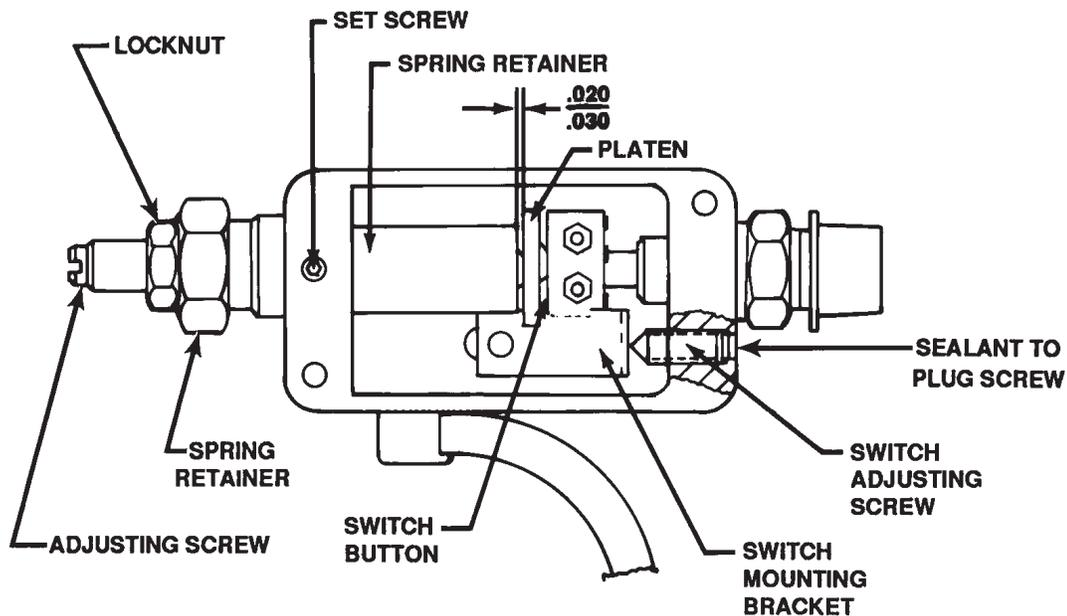

FIGURE 6
The pressure switch (see Figure 6) can be adjusted to stop the pump motor at a specific pressure setting, and then restart the pump when the pressure falls below that setting.
1. Loosen the locknut on the pressure switch (see Figure 6 on back sheet 2 of 2). Turn the adjusting screw in a clockwise direction to increase the pressure setting and counterclockwise to decrease pressure.
2. Place a .020 thick shim between the spring retainer and the platen (see Figure 6 below). Loosen the set screw (shown in Figure 6), and tighten the spring retainer until it contacts the shim. Lock the spring retainer in place by tightening the set screw.